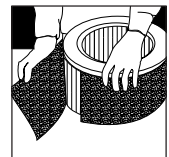

FIG. 3
4. Remove the fasteners from the activated carbon pre-filter and remove it from the HEPA filter cartridge (Fig. 3).